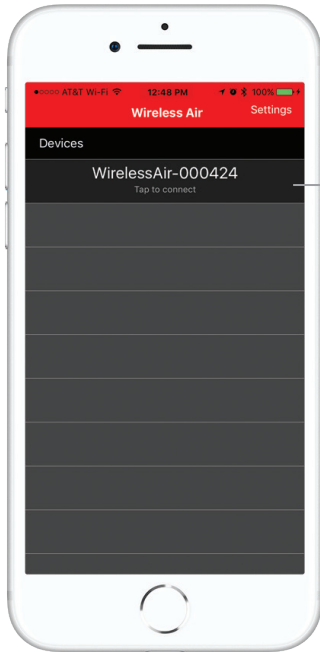

fig. D.1
3. The app will automatically go to the devices screen if no connected manifold is detected. Click on the device you want to pair. The manifold will have WirelessAir in the title, along with the serial number. Each device also shows the connection status (Fig. D.1 or D.2).